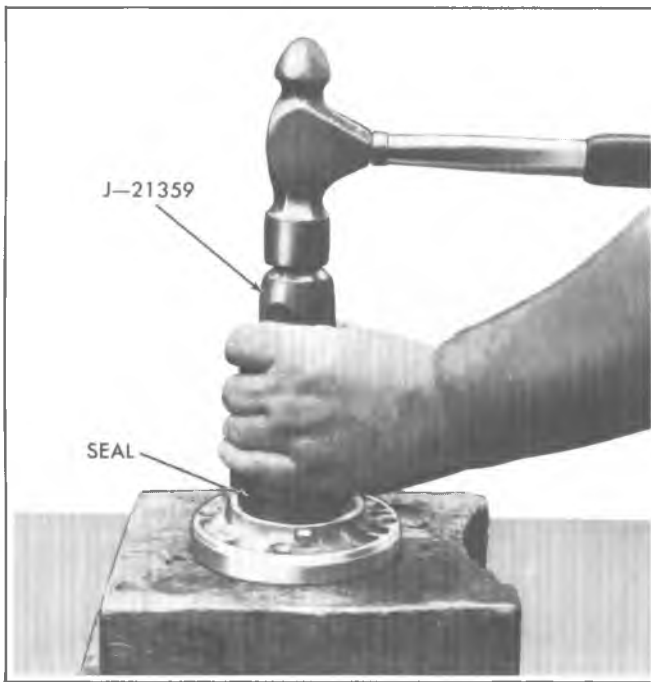

Fig. 7D-16S--Installing Input Shaft Bearing Retainer Seal
3. Position new seal to retainer and install using tool J-21359 (Fig. 7D-16S).